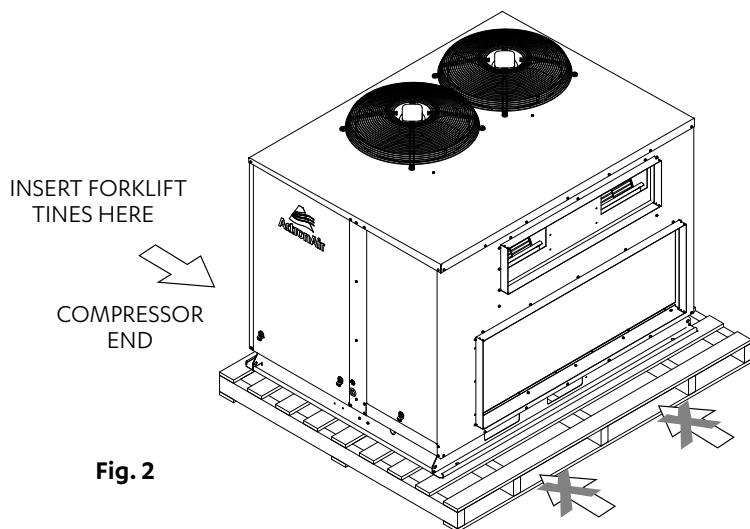

Fig. 2
1. To move the unit around with a forklift, insert the fork tines through the unit feet assembly, as shown in Fig. 2.